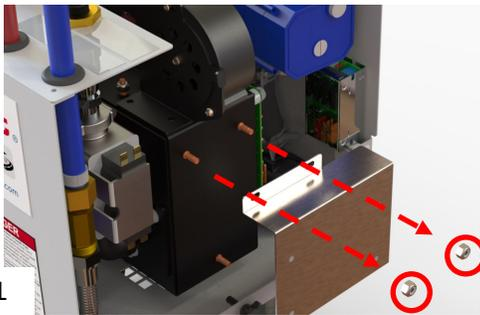

Figure 31
6. Using a 3/8” wrench, remove the two nuts affixing the Fenwal control card to the propane burner assembly. This will grant access to the Fenwal card for diagnostic. Reference figure 31.